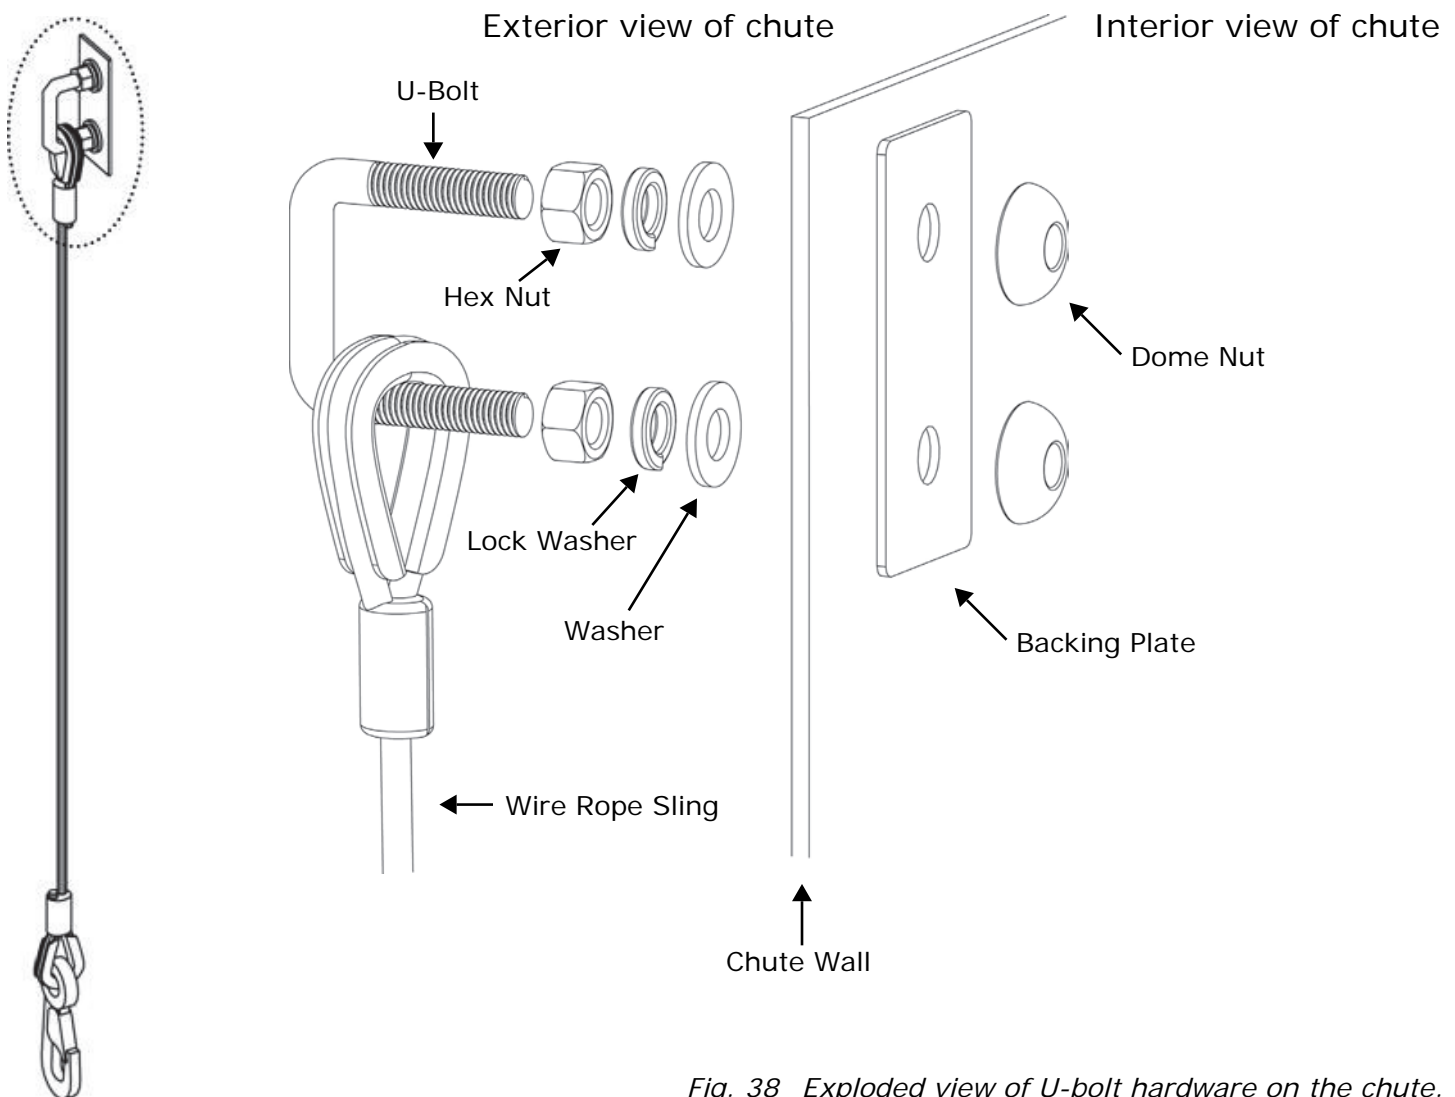

Fig. 38 Exploded view of U-bolt hardware on the chute.
2. Remove the 2 dome nuts on the U-bolt (see Fig. 38).